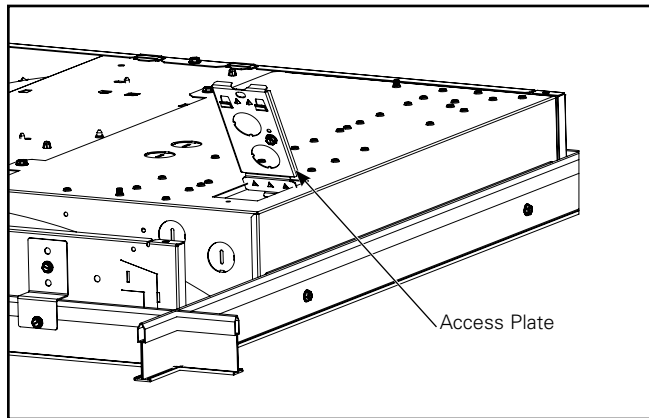

Figure 12.
- Remove appropriate knockouts from access plate on the fixture's junction box cover to access the power supply wiring. (Figure 12)